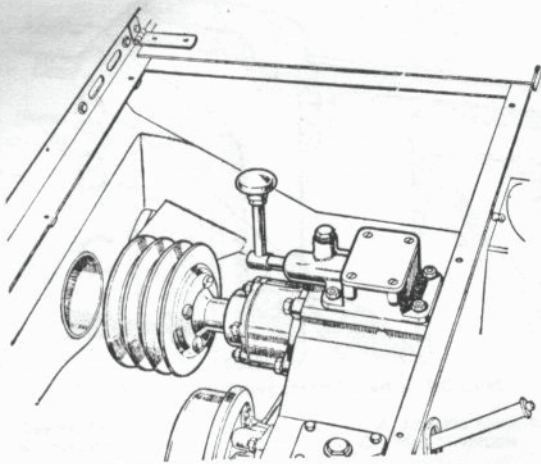

FIG 14:1 Installation of centre power takeoff
- 5 Fit the selector assembly with a new joint washer to the top of the casing. Ensure that the selector fork engages with the sliding dog clutch (see **FIG 14:2, 27**). Tighten all the bolts evenly.
- 6 Operations 4 and 5 refer to units with the early type selector lever (see **FIG 14:1**). If a unit with the late type selector lever (see **FIG 14:4**), is being installed the following additional operations are necessary.